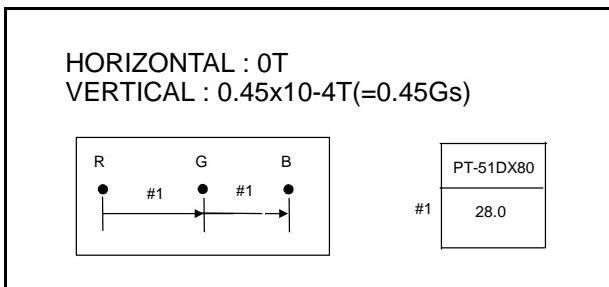

Figure 21. Centering Magnet Adjustment
6. Adjust centering magnet of red so that center of indian head pattern matches the position of the green left 28.0mm (See Figure 21).
8. Adjust centering magnet of blue so that center of indian head pattern matches the position of the green right 28.0mm (See Figure 21).